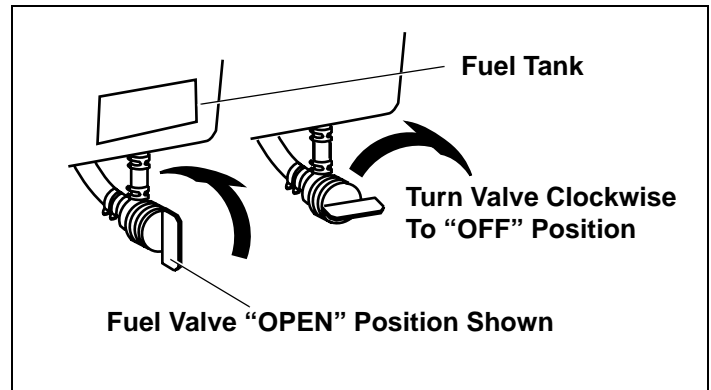

Figure 14. Fuel Valve Positions
2. Be sure fuel valve, if present (see equipment manufacturer's instructions) is open and all switches are on. See Figure 14.